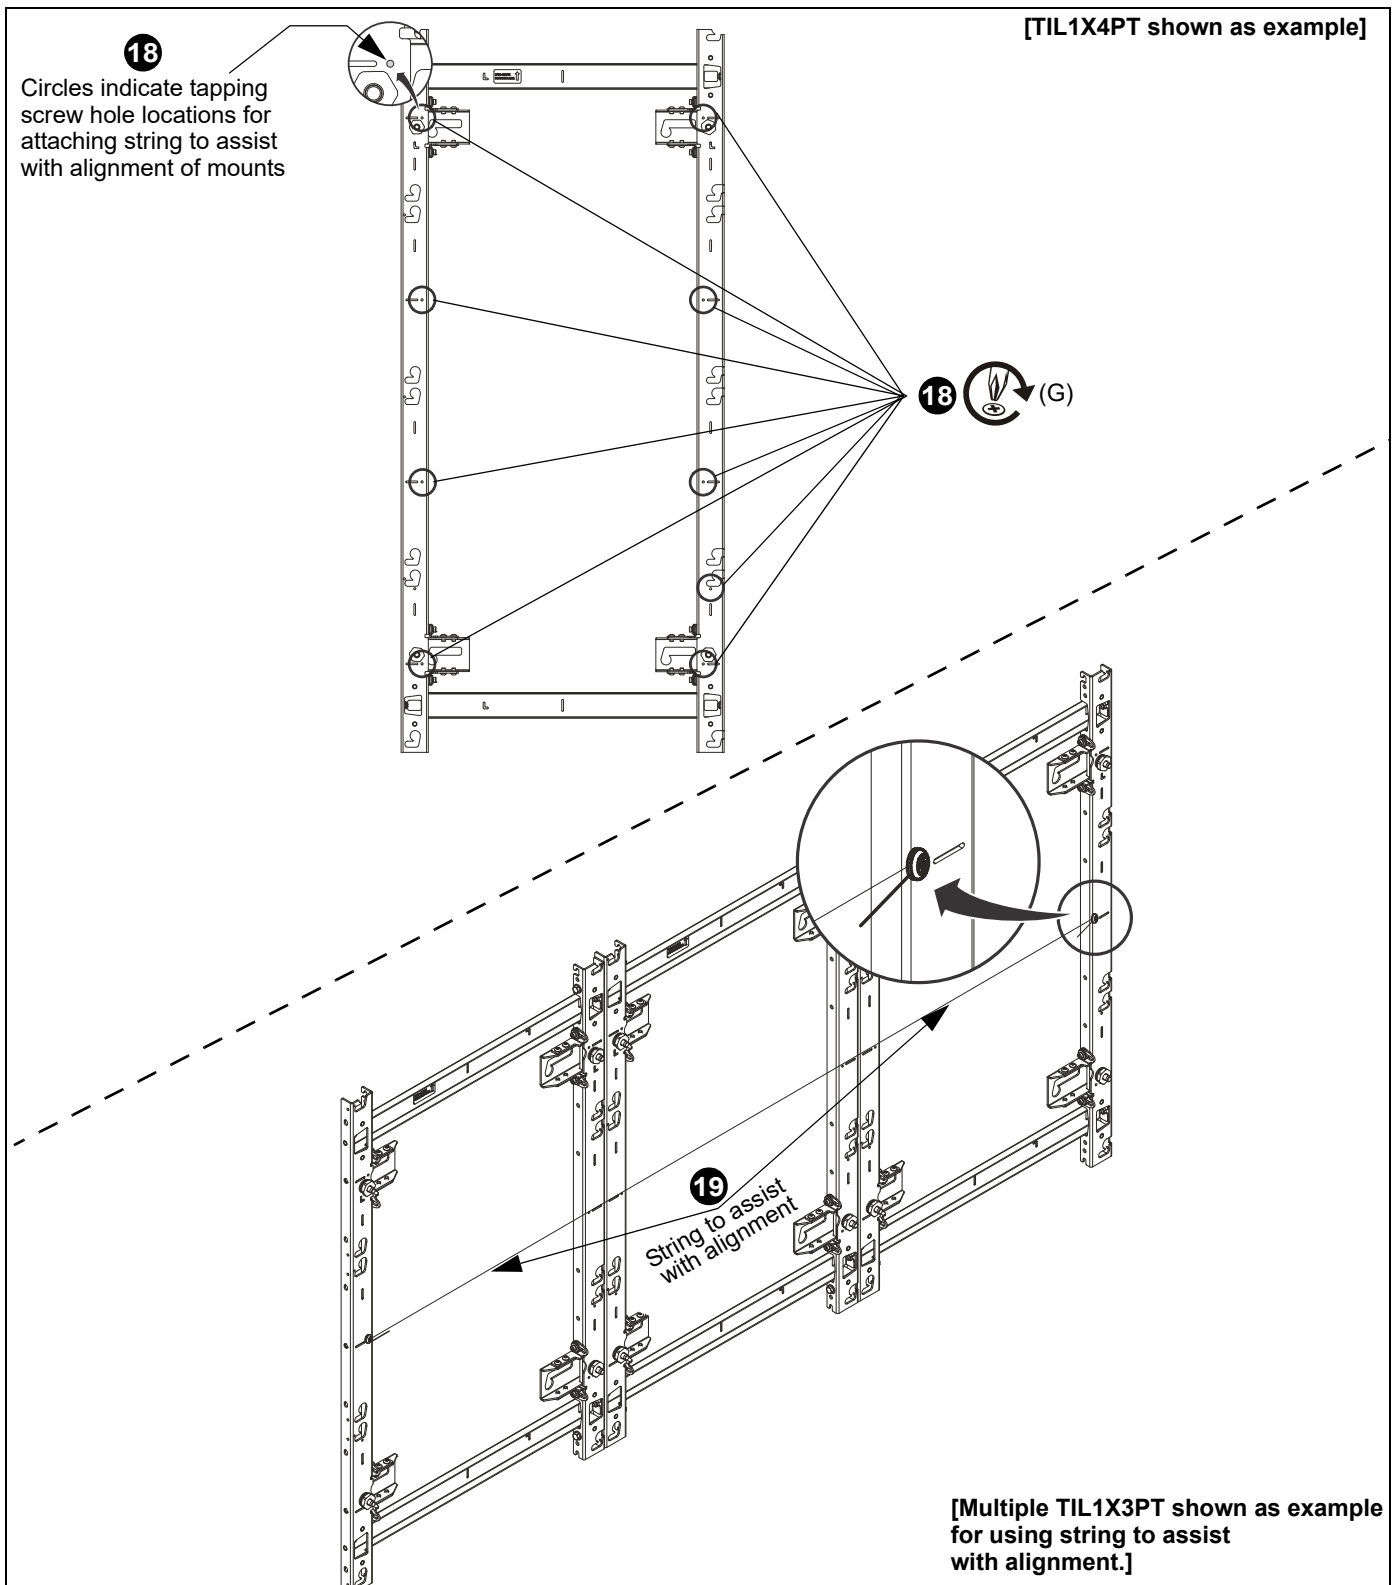

Figure 15
17. Using a drill driver makes installation of the tapping screws (C) easier.
18. Install the remaining #10 x 1/2" self-tapping screws (G) on the mount, as necessary, to assist in centering the LED housings. (See Figure 15)
19. Run a string between the self-tapping screws installed in **Step 18** to assist with alignment across long sections of mounts. (See Figure 15)